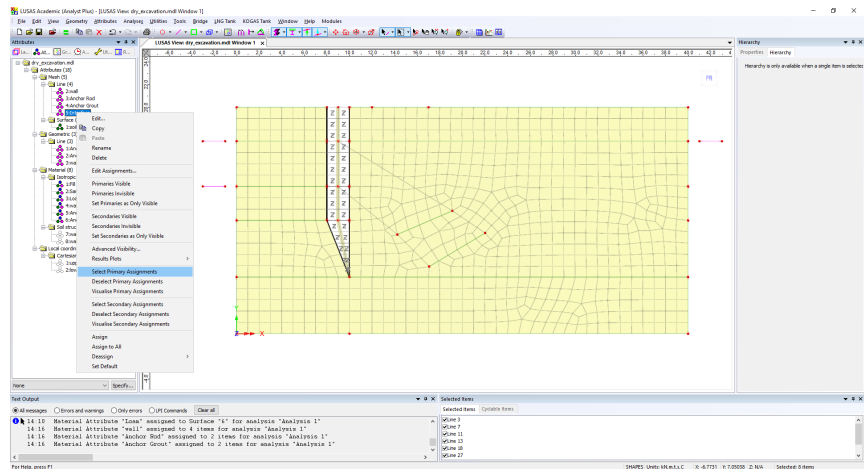

Figure 30: Interface Primary Assignments
- Assign the interface material properties to the primary sides of the interface. To confirm which are the primary sides before assigning the interface materials, in the Attributes treeview, right-click on the Mesh/Line attribute **Interface** and then on **Select Primary Assignments** as shown in figure 30.